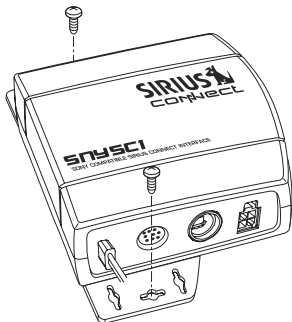

Figure 2
1. By using attached mounting plate with the provided screws to secure the device to the vehicle. (Figure 2) **Caution:** If you are attaching the device directly to the vehicle's chassis, be sure that you check to make sure the area behind the device is free from moving parts, fuel or brake lines, wire harnesses, or any other items which may get damaged by drilling a mounting hole or using the supplied screws.